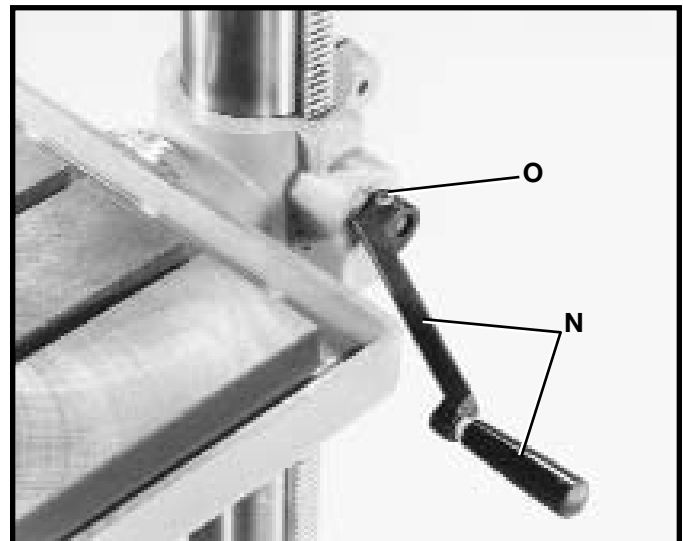

Fig. 10
10. Assemble table raising and lowering handle (N) Fig. 10, to shaft on table bracket. Line up flat on shaft with screw (O) and tighten screw (O).